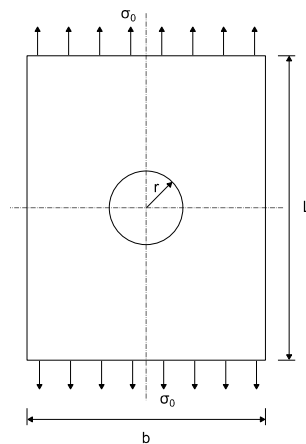

Figure 3
1. A square plate of side length L , width b and thickness t with a central circular hole of radius r , is subjected to a uniaxial stress σ_0 as shown in Figure 3. You wish to determine the stress distribution around the hole. ($t \ll L$)